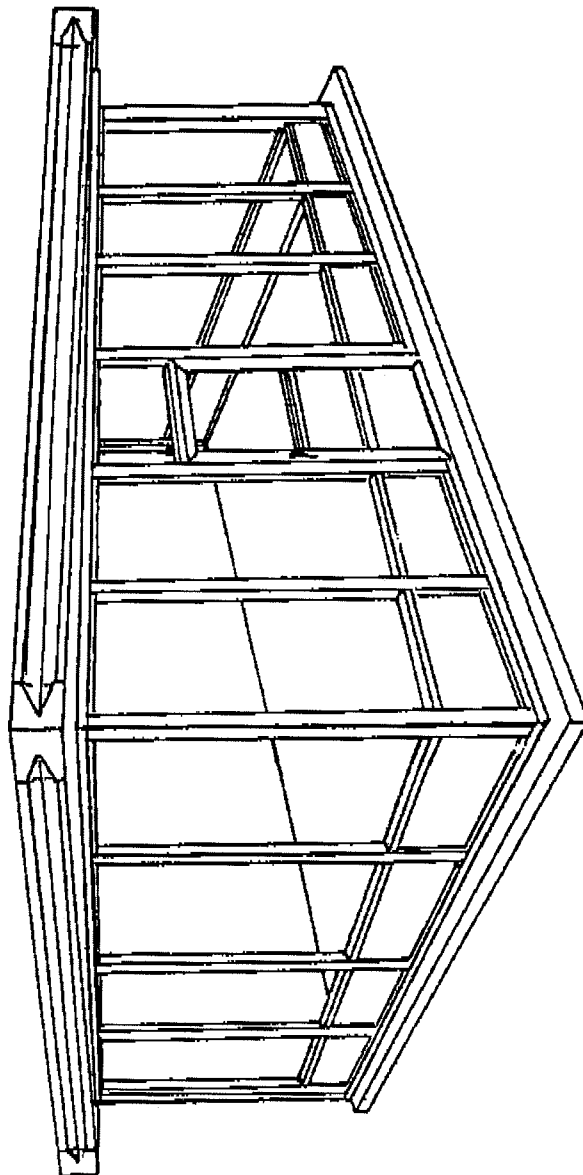

Figure 5
STEP 5: INSTALL KICKPLATE RAIL (Figure 5)